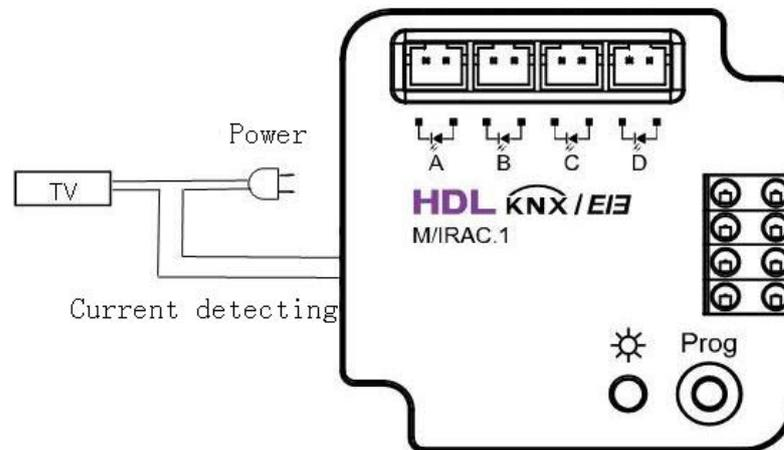

Fig17: current detection connect circuit diagram
- (1) Current detection connect circuit connect circuit as Fig17.